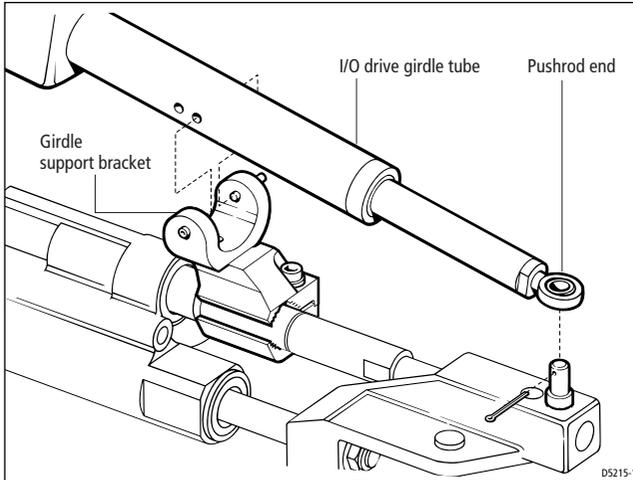

Figure 16: Fitting the I/O drive unit (KAD 32)
4. Position the I/O drive unit to align its location holes with the fixed and spring-loaded pins in the girdle support bracket (*Figure 16*).